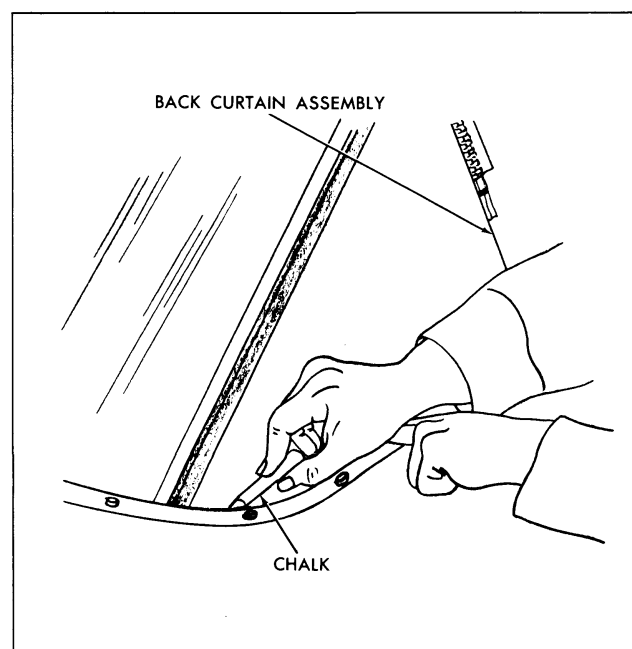

Fig. 21-28 Marking Back Curtain
17. Where required, place reference chalk mark on outer surface of back curtain along pinchweld finishing molding. Readjust back curtain assembly as required (Fig. 21-28).